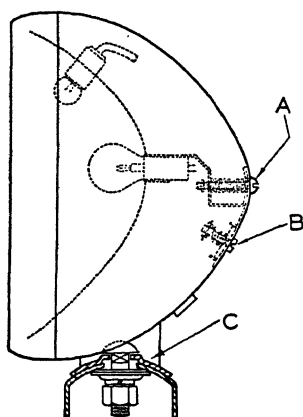

Fig. 3.
**Headlamps.** There are many thousands of automobiles in use which utilize lamps of the older type, as illustrated in Figs. 3 and 4, which show headlamps with bulbs designed for focusing. In this type of headlamp it is possible to both focus and direct the headlamp. By focusing is meant bringing the filament of the bulb into the focal point; and by directing is meant aiming the lamp to the proper position with reference to the highway to be lighted.